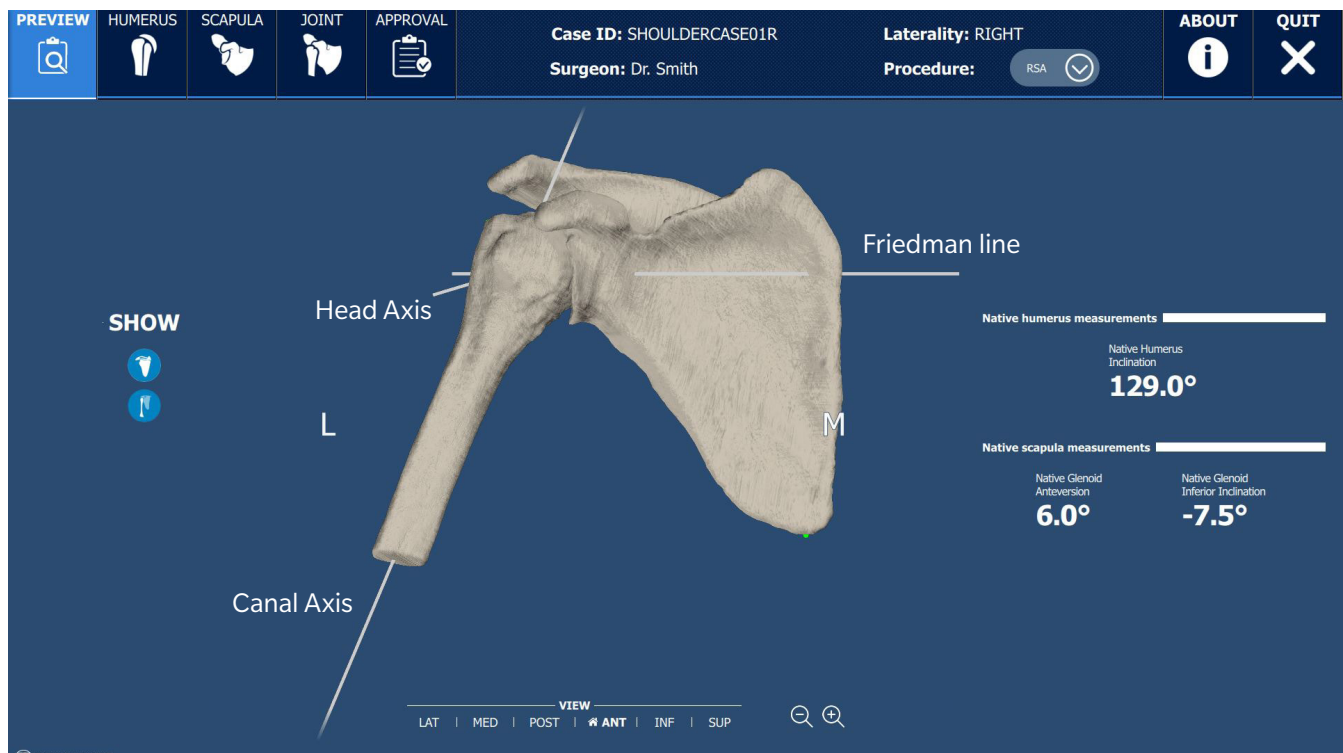

Figure 1 - Pre-plan view of the case seen when the application launches
Upon launch, the application presents 3D models of the patient’s scapula and humerus, with the operator-selected anatomical landmarks. The joint model displayed in the Preview panel is based on the CT images of the patient’s entire scapula and proximal third of the humerus. Refer to Zimmer Biomet Signature™ ONE Shoulder CT Protocol for more details. The Preview panel also displays the reference axes and native version and inclination values (see Figure 1). For the scapula, a negative value of version indicates retroversion and a positive one indicates anteversion, whereas a negative value of inclination indicates inferior inclination and a positive one indicates superior inclination.
- The two humerus axes shown in Figure 1 are the canal axis³ and the humeral head axis (vector normal to the anatomic neck plane).